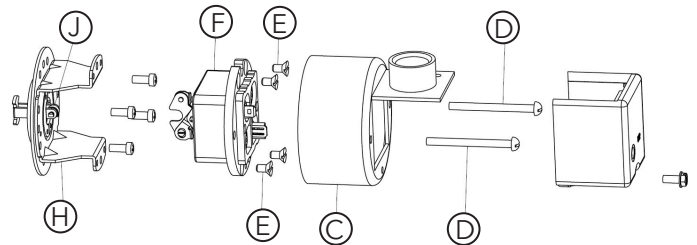

Figure 2
2. Using a flat blade screwdriver loosen the two screws (D); see **Figure 2**, but DO NOT REMOVE.
2. See **Figure 2**, using a flat blade screwdriver; remove the terminal cover (B). Tag and remove wiring from terminals. Remove screws (D) and housing (C). Remove four switch mounting screws (E) and 11M switch (F). Install the Number 11 switch (included with the kit), 'TOP' notch up and being certain to align 'U-shaped' notch of the switch rocker on the float mechanism roller (J). Secure the switch on bracket (H) with screws (E).
3. Using a flat blade screwdriver, reassemble housing (C) with screws (D), see **Figure 2**, but do not tighten, (leaving approx. 1/8" gap).